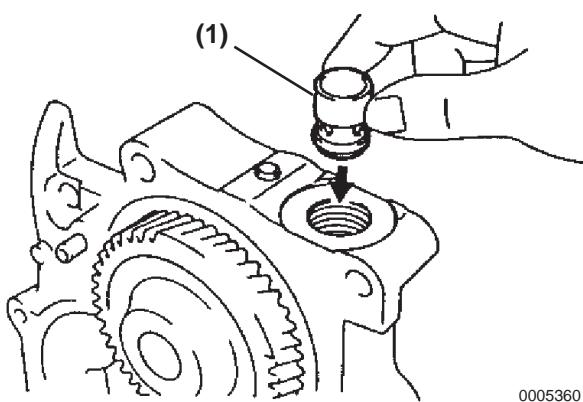

Figure 8-8
3. Inspect the relief valve (Figure 8-8, (1)) by applying engine oil to the valve and check if it falls into the valve hole smoothly by its own weight. If not, replace the relief valve. If needed, replace the oil pump assembly.